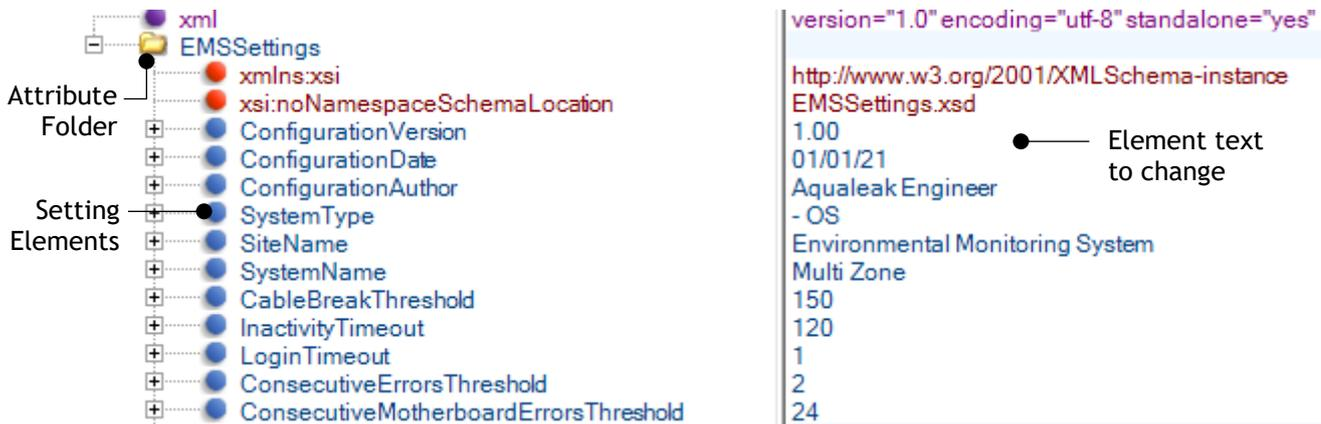

Figure 18: Expanded EMSSettings Folder
1. Click the  icon next to the **EMSSettings** attribute folder to expand it. Configurable elements will appear immediately below, along with the **text to change** in the right column (**Figure 18**).